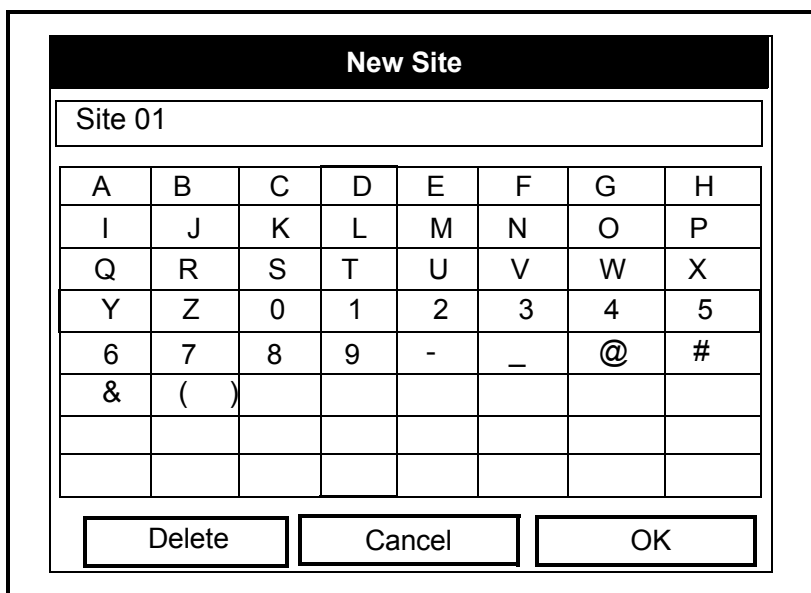

Figure 4-4: Site Name Window
1. Scroll to the *New* option in the *Site Manager* menu and press [ENTER]. A screen similar to Figure 4-4 below appears.